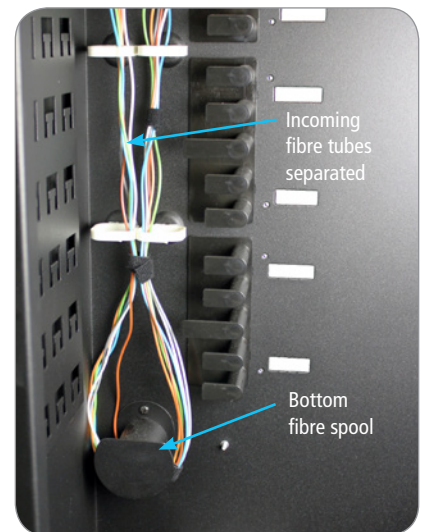

Figure 5.
- Feed all the fibre tubes into the outer row of white clips, then around the bottom spool, and up to a point where the cassettes will be terminated. See **Figure 5**.